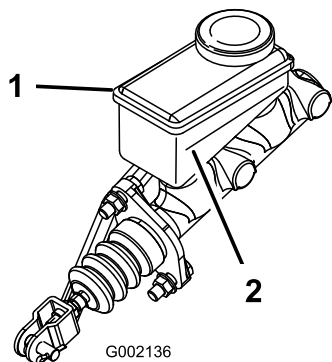

Figure 38
3. Look at the side of the reservoir. The level should be above the Minimum line (Figure 38). If the fluid level is low, clean the area around the cap, remove the cap, and fill the reservoir to above the Minimum line. Do not overfill.